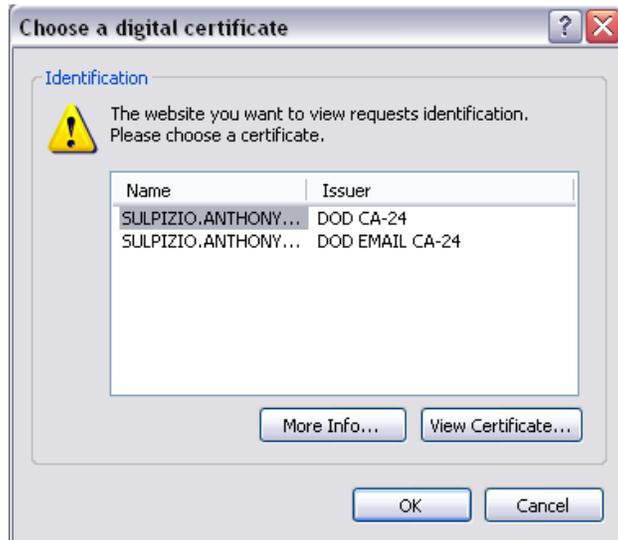

Figure 1.4
- f. The system will then prompt you to verify your identity from your CAC, or other DoD-issued Public Key Infrastructure (PKI) credentials as shown in Figure 1.4